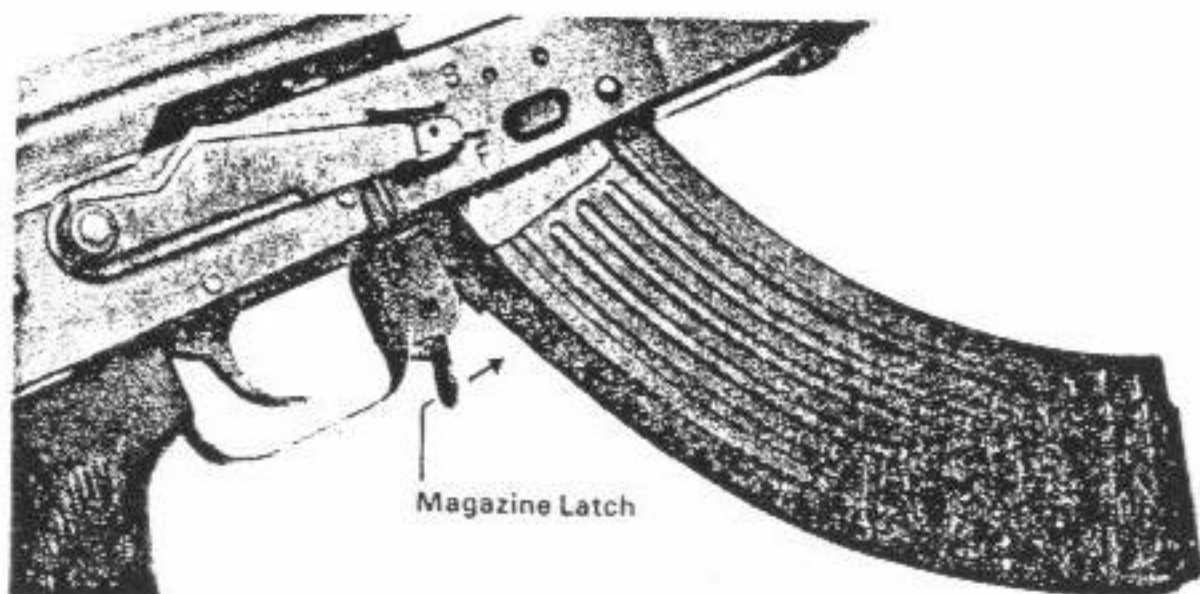

Figure 11
2. Remove the magazine by pushing forward on the magazine latch while pulling the magazine down and out of the receiver. (See Fig. 11.)